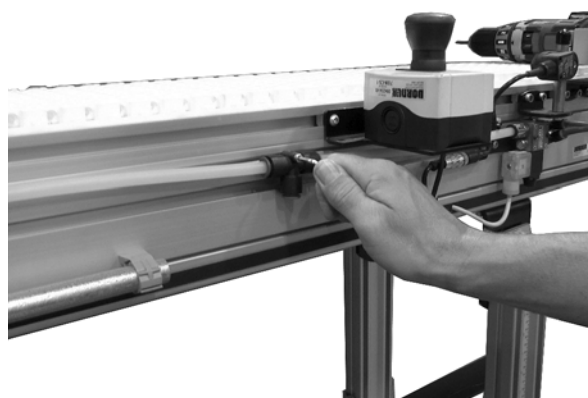

Figure 21
4. Confirm that the fastener is snug by hand tightening (**Figure 21**). Do not exceed 50 in.lb (6 Nm).